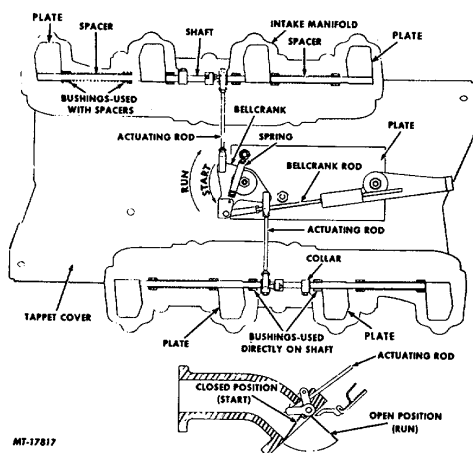

Fig. 180 Swirl Destroyer Control Linkage (Early Production Engines Only)
51. On engines equipped with swirl destroyer connect swirl destroyer actuating rods to shaft levers at intake manifolds. Adjust rod length if necessary, so that swirl destroyer plates in both manifolds are fully closed with bellcrank in START position (Fig. 180).